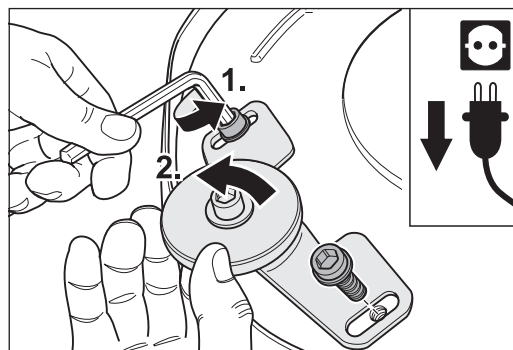

Fig. 28 Remove the screws on the wall-protecting wheel bracket and then remove the complete wall-protecting wheel.
- 3 Remove the two screws with which the wall-protecting wheel bracket is fastened to the attachment and then remove the complete wall-protecting wheel (Fig. 28).